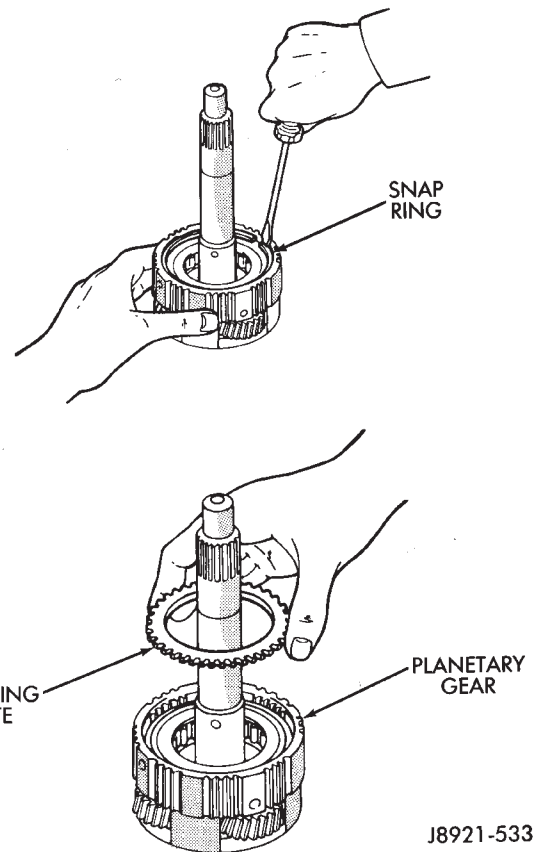

Fig. 13 Removing Snap Ring And Retaining Plate
(15) Remove snap ring and remove retaining plate (Fig. 13).